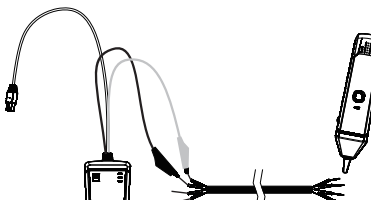

Figure 3. Tracing pairs
7. Tracing pairs (see Figure 3)